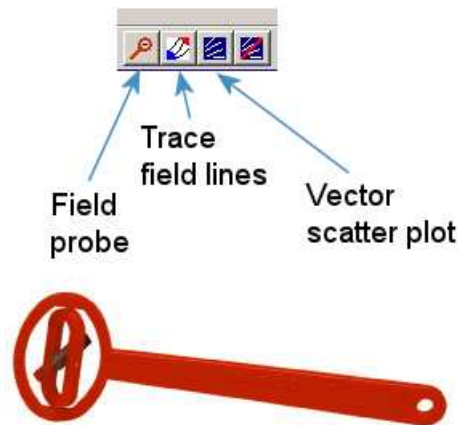

Figure 26: Tools to display vector information in the slice plot menu.
**HWV** has useful tools to display the direction of the vector quantities  $\mathbf{B}$  and  $\mathbf{H}$  in slice plots. Figure 26 shows the corresponding entries on the toolbar.
This feature was inspired by the familiar Magnaprobe illustrated in Fig. 26. When you click on the tool and move the cursor into the slice-plot area, it changes to a semi-transparent probe that rotates about a pivot point to show the direction thermal flux. The probe functions in all plot styles and may be combined with flux-line traces and scatter plots. The status bar shows the coordinates along with the temperature and thermal flux magnitude at the pivot point.